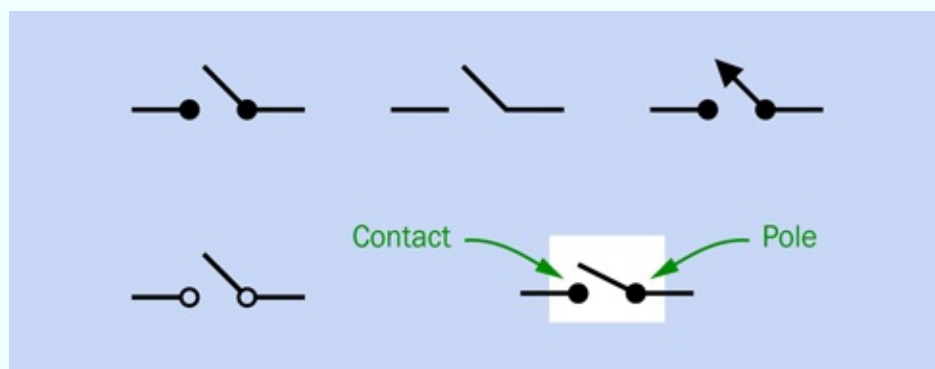

Figure 2-40. Five variations in the schematic symbol for a SPST switch. They are all functionally identical.
1. The Switch. Figure 2-40 shows five variations of that most basic component, a single-pole, single-throw switch. In each case, the pole happens to be on the right, while the contact is on the left—although with a SPST switch, this does not make a significant difference. In this book I have chosen to include a white rectangle around each switch, to emphasize that although it has two parts, they constitute one component.